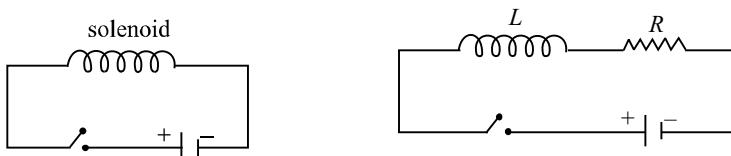
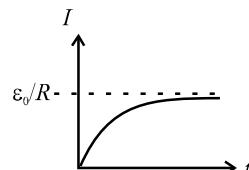

Fig. 19.9: LR Circuit
Fig.19.10 : Variation of current with time in a LR -circuit.
Suppose that a solenoid is connected to a battery through a switch (Fig.19.9). Beginning at $t = 0$, when the switch is closed, the battery causes charges to move in the circuit. A solenoid has inductance (L) and resistance (R), and each of these influence the current in the circuit. The inductive and resistive effects of a solenoid are shown schematically in Fig.19.10. The inductance (L) is shown in series with the resistance (R). For simplicity, we assume that total resistance in the circuit, including the internal resistance of the battery, is represented by R . Similarly, L includes the self-inductance of the connecting wires. A circuit such as that shown in Fig.19.9, containing resistance and inductance in series, is called an *LR* circuit. The role of the inductance in any circuit can be understood qualitatively. As the current $i(t)$ in the circuit increases (from $i = 0$ at $t = 0$), a self-induced emf $\varepsilon = -L di/dt$ is produced in the inductance whose sense is opposite to the sense of the increasing current. This opposition to the increase in current prevents the current from rising abruptly.
If there been no inductance in the circuit, the current would have jumped immediately to the maximum value defined by ε_0/R . But due to an inductance coil in the circuit, the current rises gradually and reaches a steady state value of ε_0/R as $t \rightarrow \tau$. The time taken by the current to reach about two-third of its steady state value is equal to by L/R , which is called the **inductive time constant** of the circuit. Significant changes in current in an LR circuit cannot occur on time scales much shorter than L/R . The plot of the current with time is shown in Fig. 19.10.